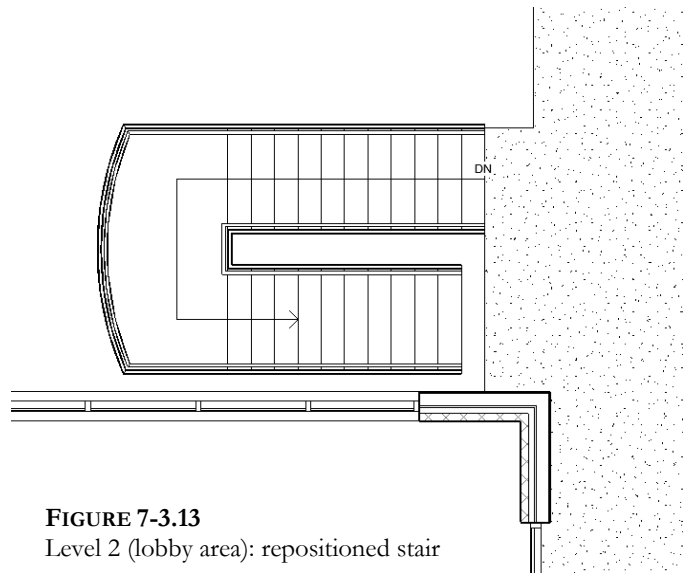

FIGURE 7-3.13
31. Select the lobby stair and use the **Move** tool to reposition it as shown in Figure7-3.13.